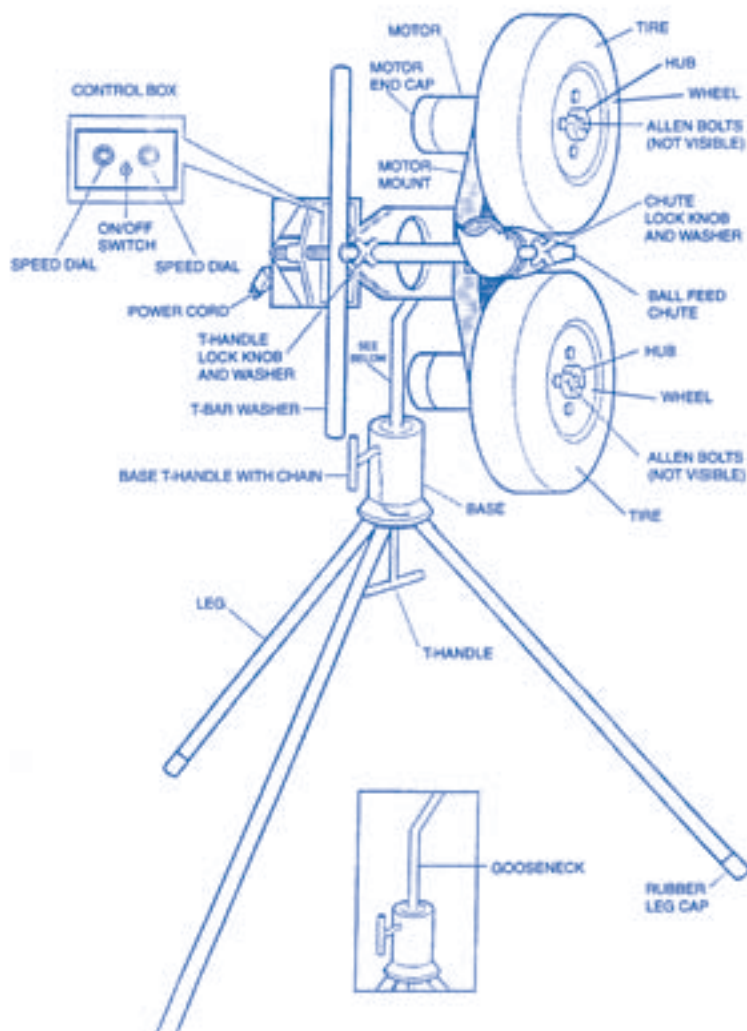

Figure 3
- Make sure you have all the parts (see figure 3). If any parts are missing, do not operate the machine until the missing parts are replaced. Failure to do so could result in possible serious personal injury.
1. With the tire side down, place the triangular leg clamp in the leg clamp casting (see figure 3.)
2. Loosen Handle Bar lock knob (figure 3) and adjust until desired trajectory is attained, then tighten securely. For fine adjustments, loosen lock knob slightly and adjust Handle Bar down, or sideways. (It is normal to throw five or six test balls before arriving at the curve setting and aim point you desire.) Always have the batter and others stand clear while adjusting your JUGS pitching machine and throwing test balls.